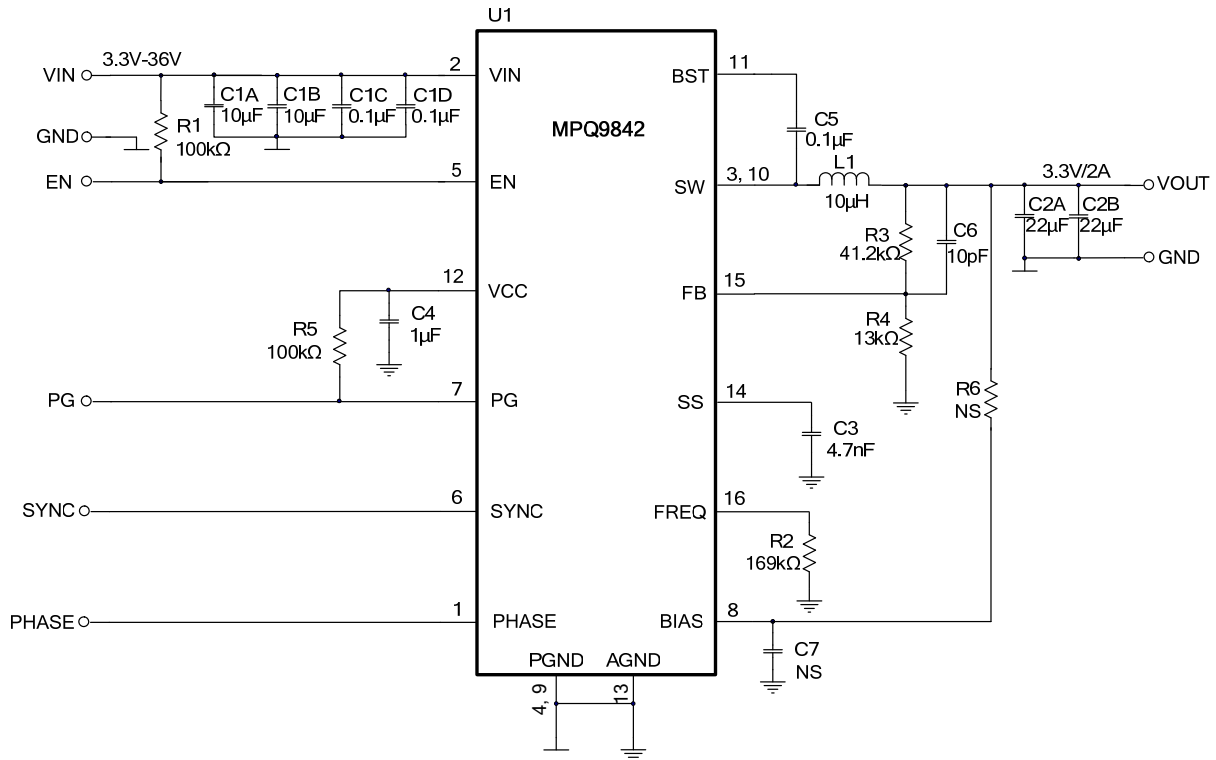

Figure 8: $V_{OUT} = 3.3V$, $F_{SW} = 500kHz$
- 8) The recommended PCB layout is based on Figure 8.